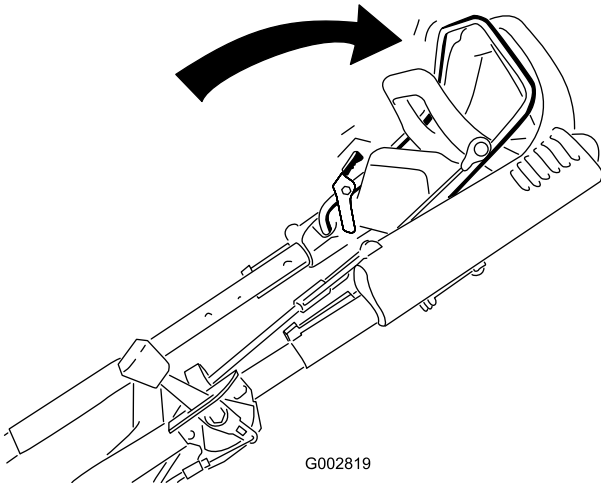

Figure 16
2. Pull the blade control bar to the handle and hold it (Figure 16).